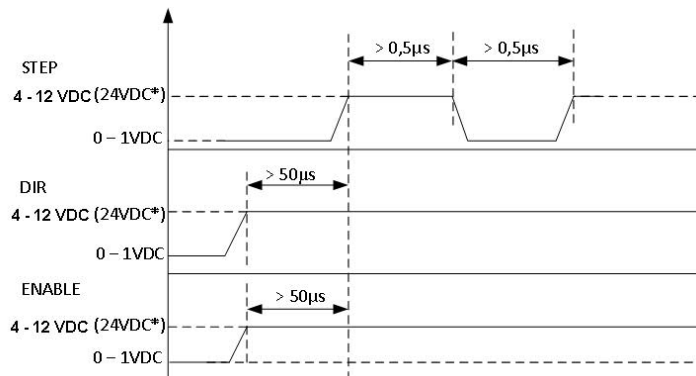

Fig.6. «STEP», «DIR» and «ENABLE» signals order and duration
- **If used pulse position control mode (SW4=OFF)**, give a sequence of signals «STEP» (pulse), «DIR» (level) and «ENABLE». High level of the signals – 4..12VDC (24VDC\*), low level - 0..1VDC. One step (or microstep) executes as per the front edge of the voltage pulse on the «STEP» input. Direction switches by changing voltage level at the «DIR» input. The motion is enabled if the signal to «ENABLE» input is given. The signals oscillogram is shown on fig.6.